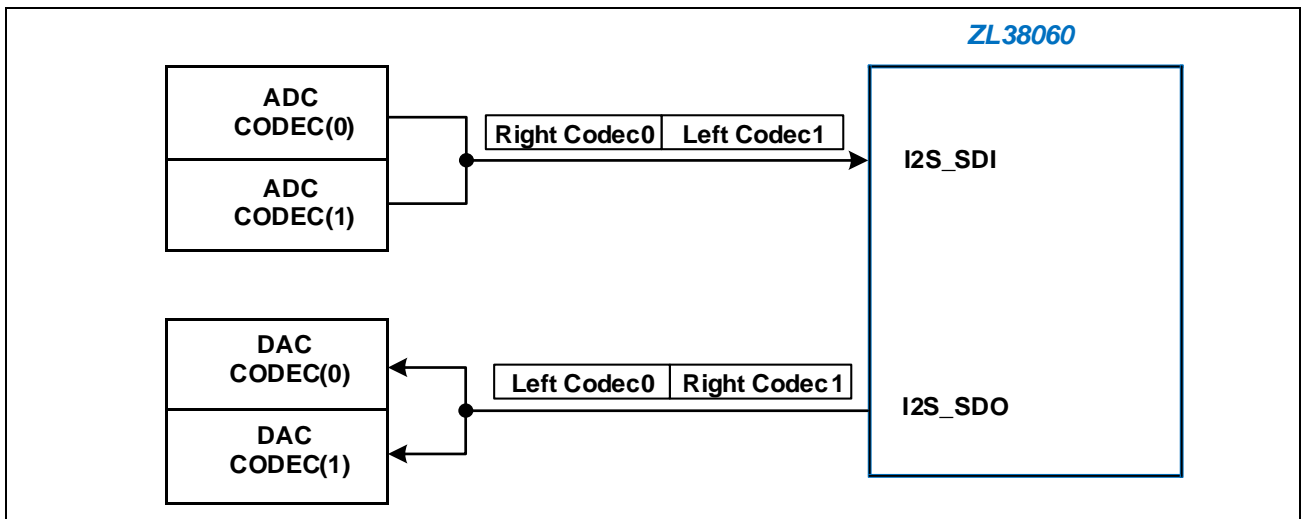

Figure 10 - Dual Codec Configuration
Each I2S interface can support one dual channel Codec (Figure 10) through the Codec's I2S interface. The four 16-bit channel processing capacity of the DSP is spread across the two input channels from the ADCs of Codec(0) and Codec(1), and the two output channels to the DACs of Codec(0) and Codec(1).